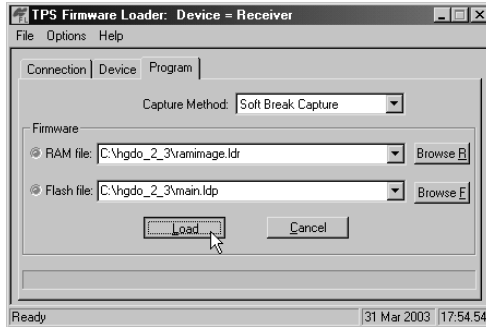

Figure 3-27. Program Tab Settings
- On the *Program* tab, set the *Capture Method* to Soft Break Capture (recommended). Browse for and select the receiver board's RAM file and Flash file (Figure 3-27).